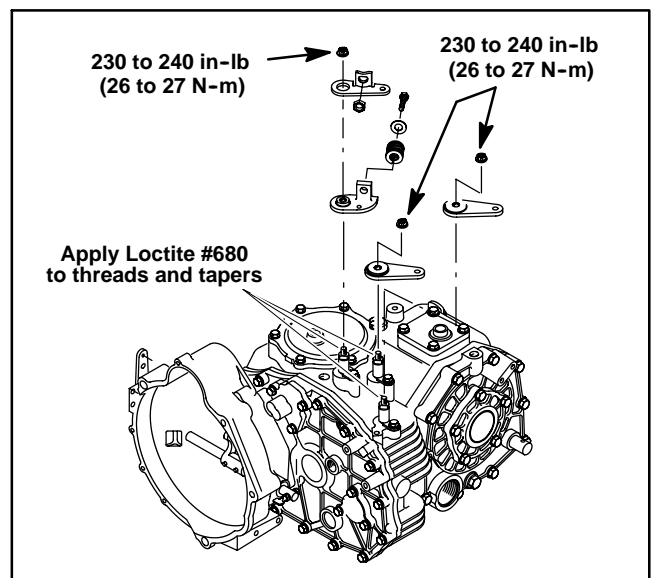

Figure 18
B. Before installing two (2) shift levers and shift arm onto transaxle shafts, thoroughly clean tapers of shafts, shift levers and shift arm. Apply Loctite #680 to threads and tapers of shafts. Secure levers and shift arm by torquing nut from **230 to 240 in-lb (26 to 27 N-m)** while holding lever to prevent torque transfer into transaxle (Fig. 18).